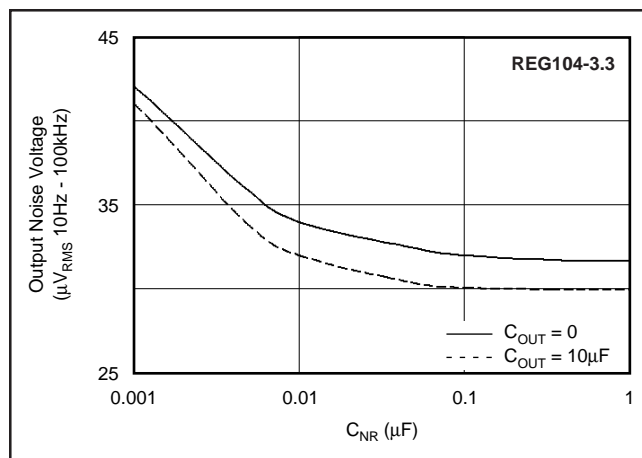
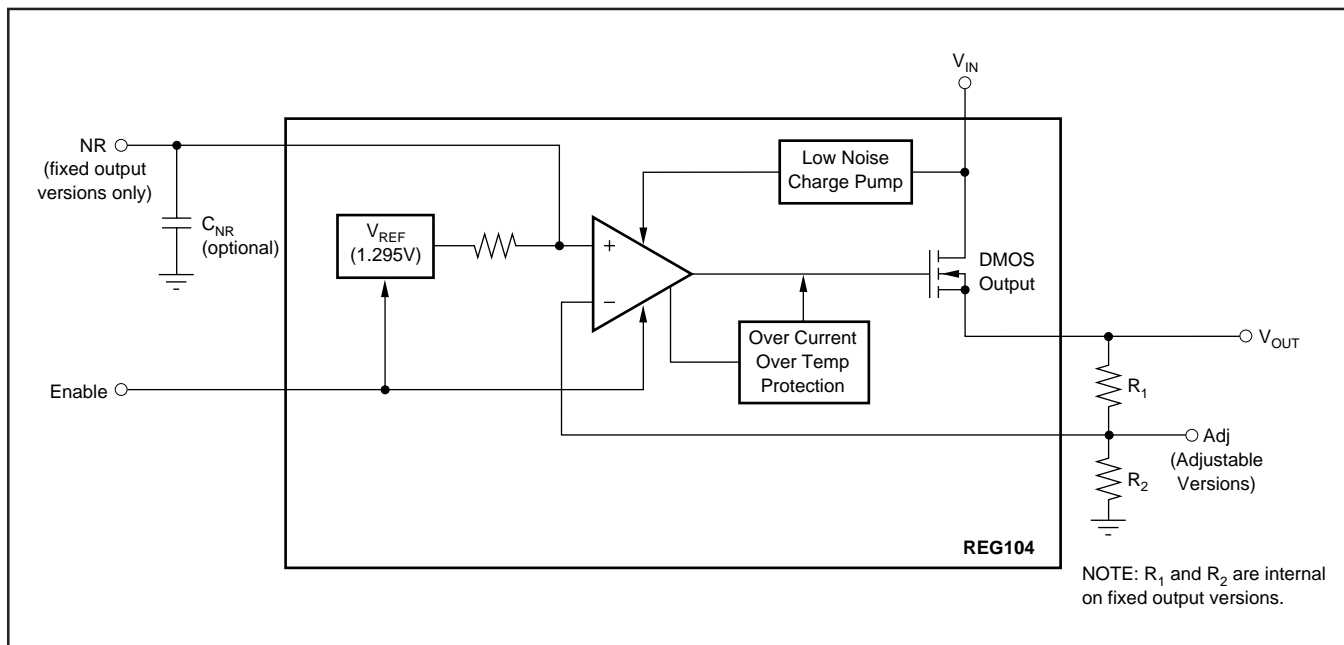

FIGURE 6. Output Noise versus Noise Reduction Capacitor.
FIGURE 5. Block Diagram.
Connecting a capacitor, C_{NR} , from the Noise-Reduction (NR) pin to ground can reduce the output noise voltage. Adding C_{NR} , as shown in Figure 5, forms a low-pass filter for the voltage reference. For $C_{NR} = 10nF$, the total noise in the 10Hz to 100kHz bandwidth is reduced by approximately a factor of 3.5. This noise reduction effect is shown in Figure 6.